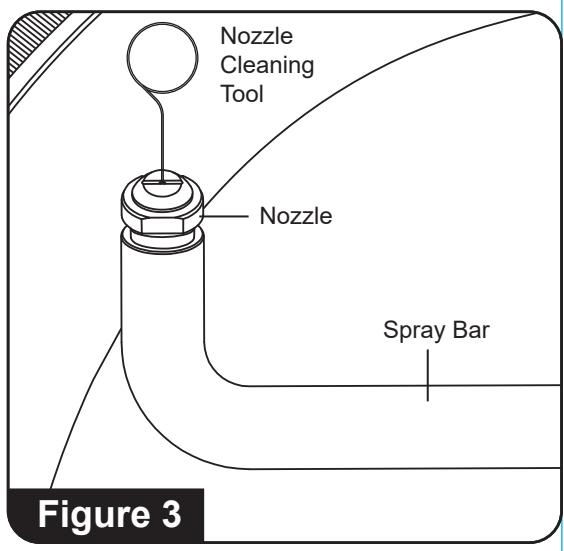

Figure 3
4. Using the nozzle cleaning tool, free any foreign material clogging or restricting the nozzle. (See Figure 3)